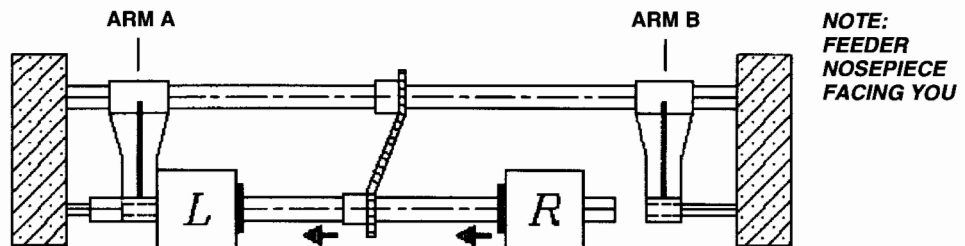

Figure 4-6. Sliding Shaft 1 into Arm A
9. Slide the end of the Shaft 1 back into Arm A; once inserted into Arm A, carefully continue sliding Shaft 1 to the left (through Arm A and away from Arm B) to disengage from Arm B, as shown in figure 4-6.